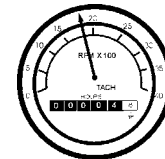

Figure 47. Engine Tachometer Gauge
11. The **tachometer gauge** (Figure 47) will indicate the speed of the engine when the generator is operating. Under normal operating conditions this speed is approximately 1800 RPM's.